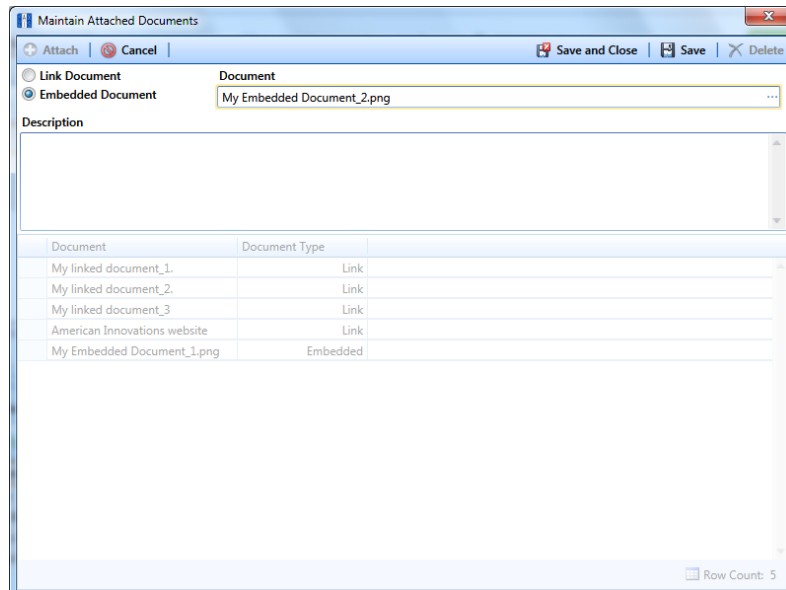

Figure 3-16. Embedded Document
- 9 If you selected *Embedded Document* in step 6, complete the following steps (Figure 3-16):